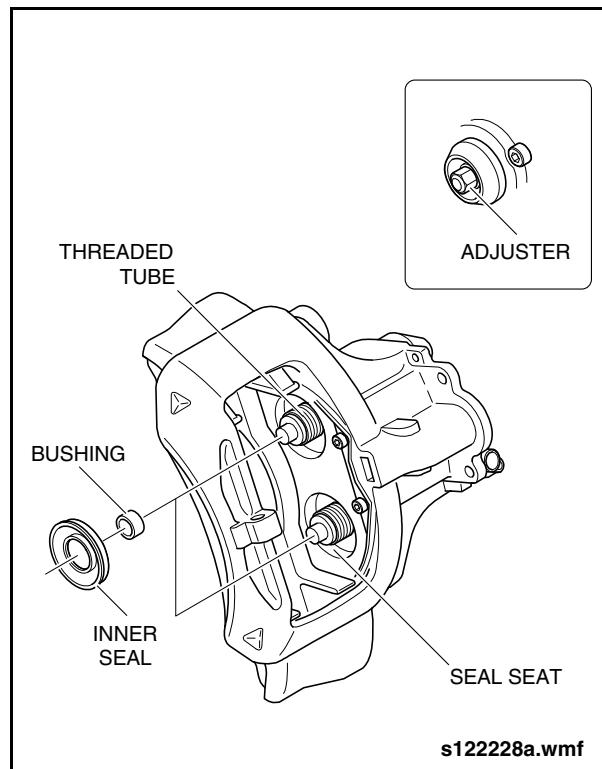

Fig. 1-69: Removing Inner Seal
7. Carefully pry the inner seal out of the seal seat. See "Fig. 1-69: Removing Inner Seal" on page 67.